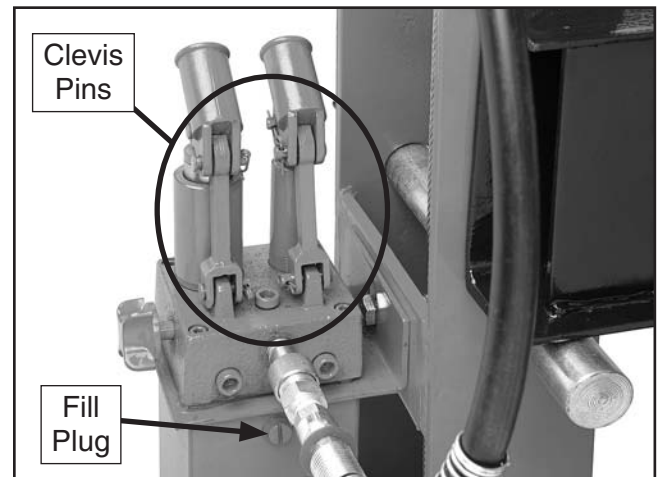

Figure 21. Clevis pins.
1. Using a hand-held oil gun, apply one or two drops of any standard machine oil or motor oil to all clevis pins shown in **Figure 21**.
2. With the press completely retracted in the uppermost position, use a #3 standard screwdriver, and un-thread the fill plug shown in **Figure 21**.